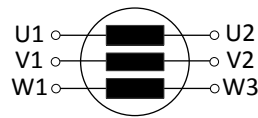

Figure 2. Phases of the induction machine.
- Using this information, complete wiring in Figure 2 for star (a) and delta (b) connections.